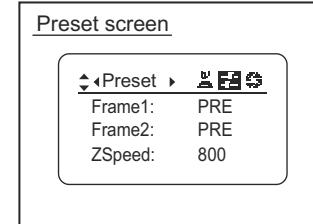

Fig1-5
3. Preset screen (See Fig. 1-5 below)